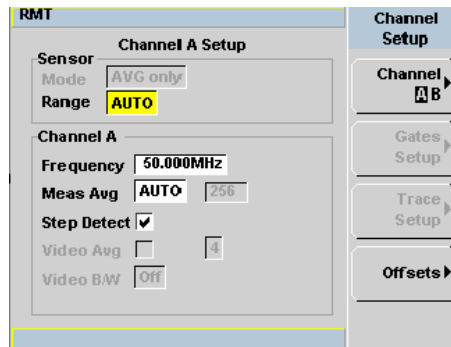

Figure 2-44 Channel Setup display
- 3 Press . The **Channel Setup** displays as shown in Figure 2-44.